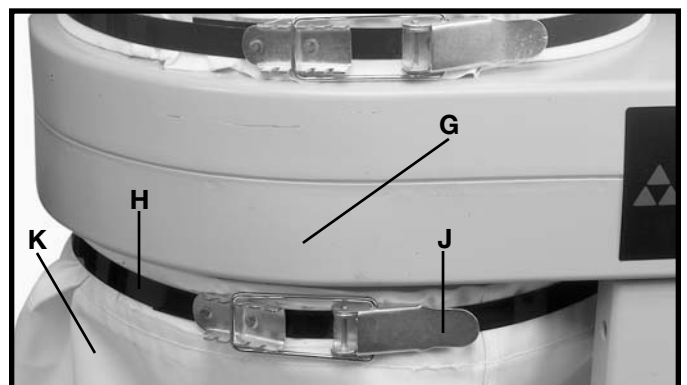

Fig. 16
4. Place the remaining locking band (H) Fig. 16, around the dust collection bag (K). Position open end of bag over the lip of drum (G) and fasten with locking clamp (J). **NOTE:** Make certain locking band (H) is positioned in the channel of drum before locking clamp (J).